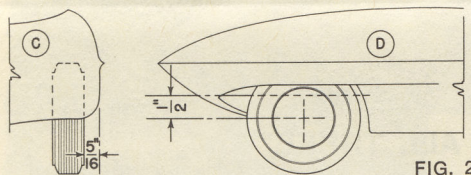

FIG. 2
(Fig. 2)—If the fenders cover any part of the front wheels at or above a line $\frac{1}{2}$ inch higher than the wheel center (D, dotted line), the wheels should be placed $\frac{5}{16}$ inch from the fender edge (C).
Rear wheels, if fully exposed, may be placed flush with the fender edge. Rear wheels which are not fully exposed should be placed $\frac{5}{16}$ inch from the fender edge (C, Fig. 2).